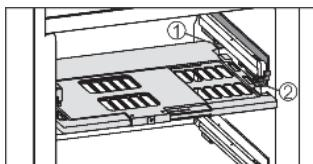

Fig. 5
- To insert the humidity control plate: Insert the guide pieces of the plate into the rear retainer *Fig. 5 (1)* from below, then snap the plate into the retainer *Fig. 5 (2)* in the front.